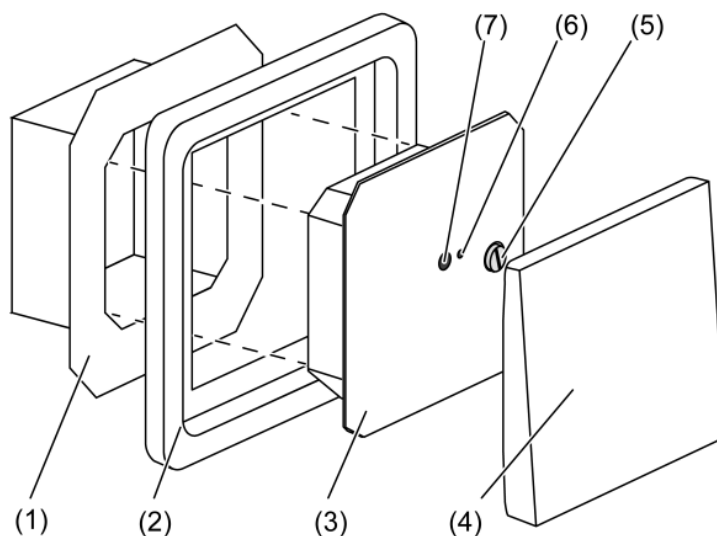

Figure 1
- Separate the connection terminal insert (1) and the electronics cover (3) (see figure 1).
- Fit the design frame (2) on the connection terminal insert (1) (see figure 1).
- Remove the cover (4) (see figure 1).
- Insert the electronics cover in the correct position into the connection terminal insert (see figure 1).
- Fasten the electronics cover with the retaining screw (5) (see figure 1).
- Reattach the cover (4) (see figure 1).
- Press the programming button (7) (see figure 1).
The programming LED (6) is illuminated (see figure 1).
The programming LED (6) goes out (see figure 1).